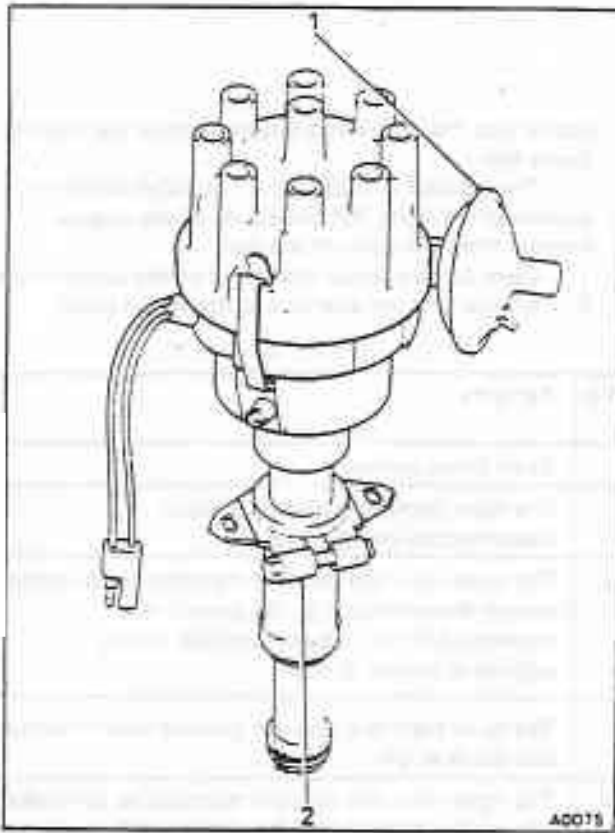

Fig. M5-2 Distributor
- 5. Disconnect the hose from the distributor vacuum capsule (see fig. M5-2). Blank off the hose.
Slacken the distributor clamp bolt (see fig. M5-2) and rotate the distributor to set the timing at 25° btdc. Clockwise rotation of the distributor head advances the ignition timing and anti-clockwise rotation retards the ignition timing. After adjustment has been made, tighten the clamp screw and check to ensure that the timing is still 25° btdc.